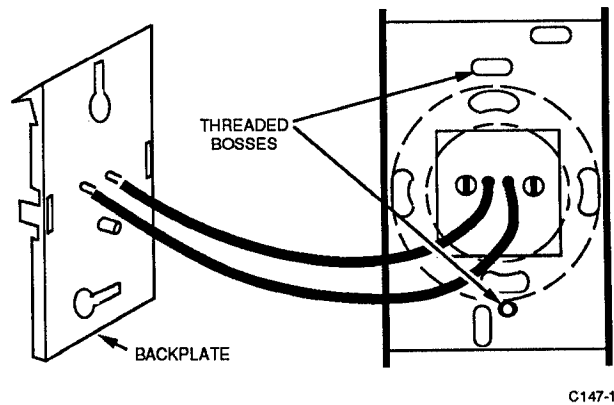

Fig. 15. Threaded Bosses Shown through Slots in Baseplate.
4. Thread tubing through baseplate (Fig. 15) (and heavy duty guard base, if required) and connect the tubes to the backplate.